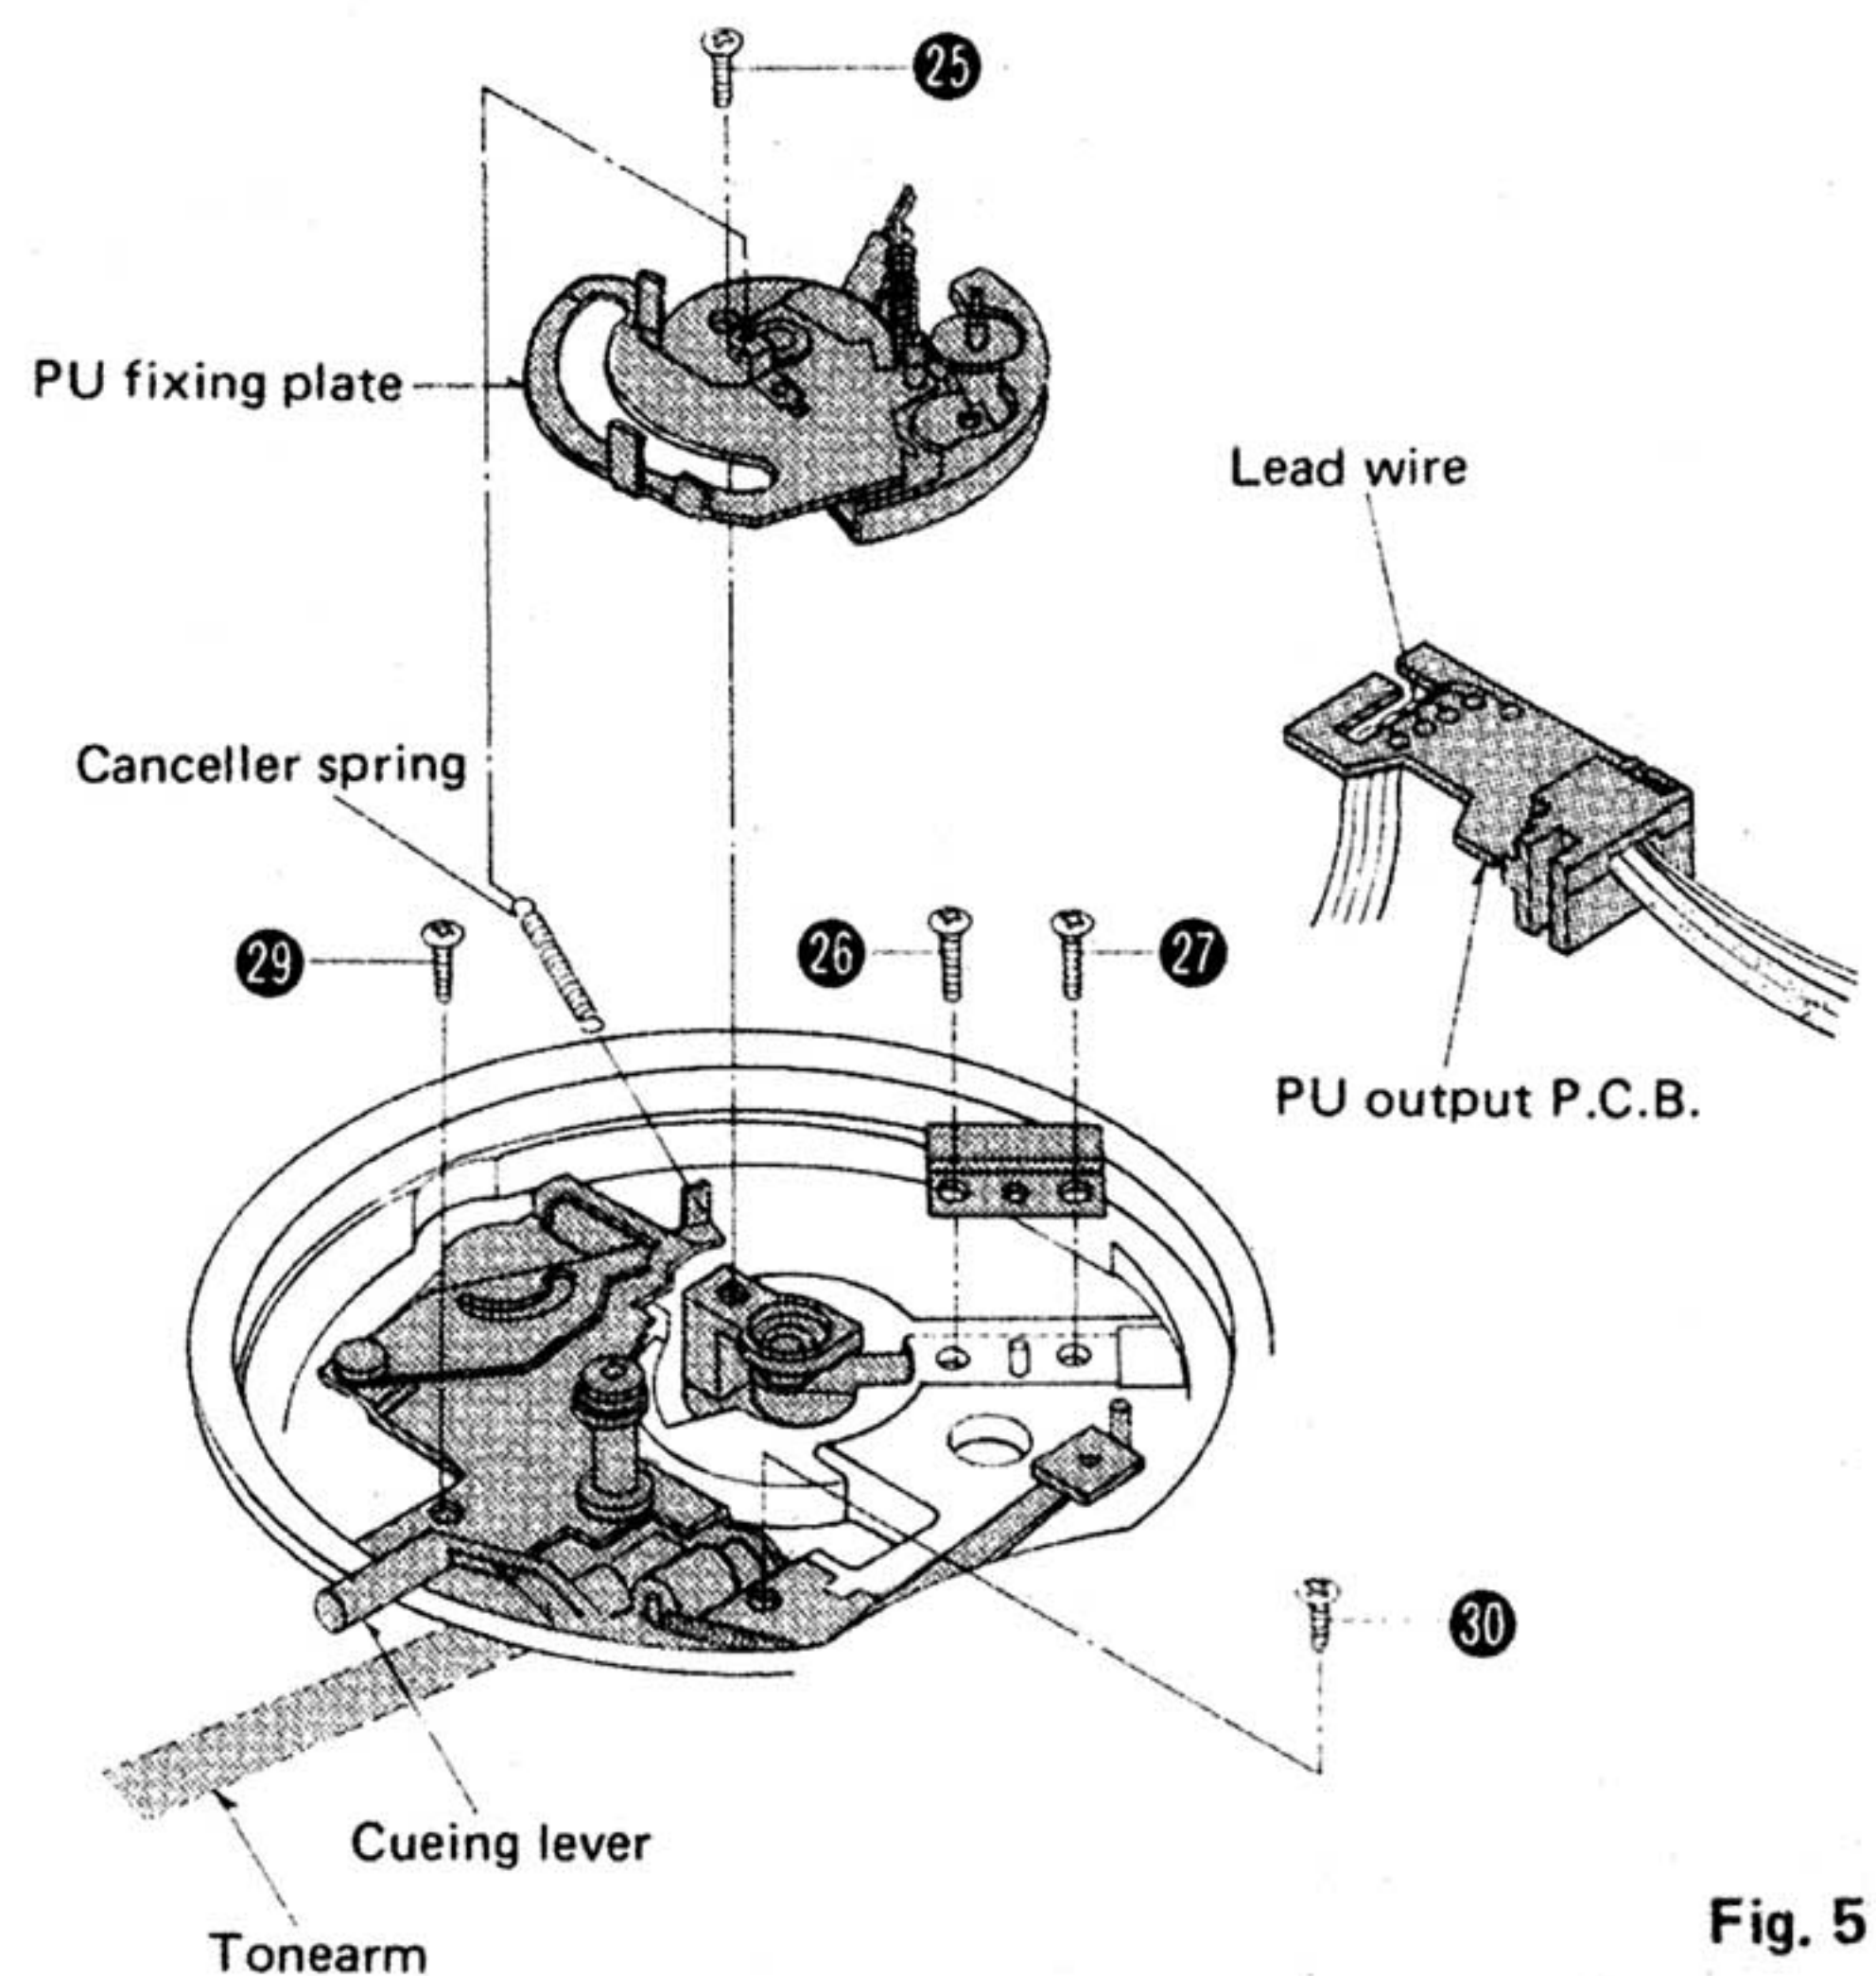

Fig. 5
2. Remove the PU fixing plate setscrew ②⑤ and canceller spring. (See Fig. 5)
3. Unsolder the 5 lead wires from the tonearm. (See Fig. 5)
4. Remove the tonearm setscrews ②⑥ and ②⑦. Then the tonearm can be removed. (See Fig. 5)
8. Remove the lift base plate setscrews ②⑨ and ③①. Then, the lift base plate can be removed. (See Fig. 5)